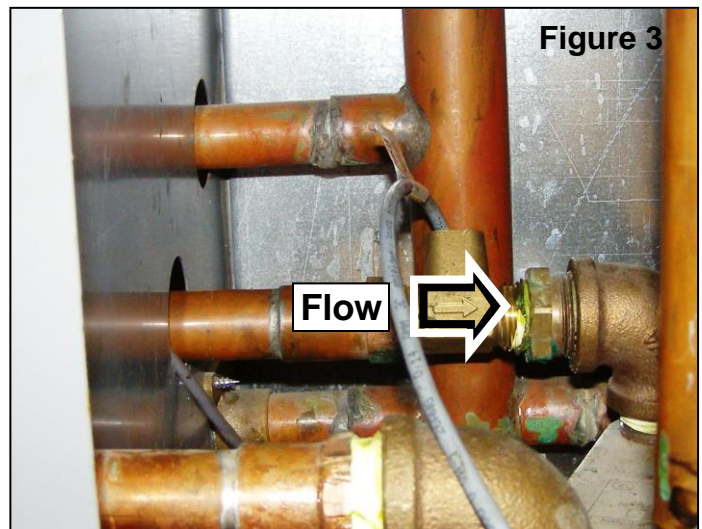

Figure 3
- 6) Install the new flow sensor with the directional arrow facing the plate heat exchanger. Use pipe thread sealant that is suitable for domestic water (**Figure 3**).